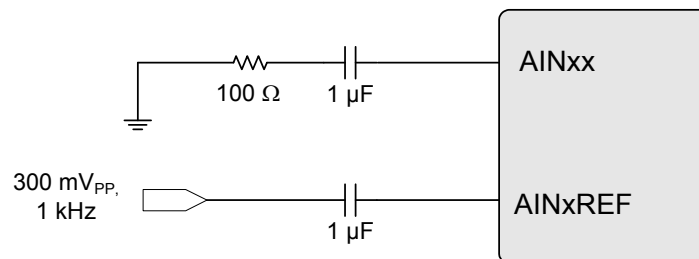

Figure 5. AINxREF Input Voltage Test Configuration
- Providing a signal level higher than 300 mVpp on the AINxREF pin may degrade the PGA linearity and adversely affect analog input performance. See Figure 5.